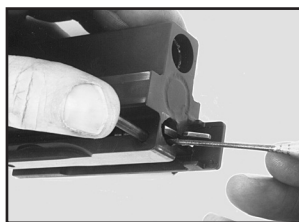

Fig. 29 Push firing pin forward
3. Using any pointed object and push the rear end of the firing pin forward (Fig. 29).